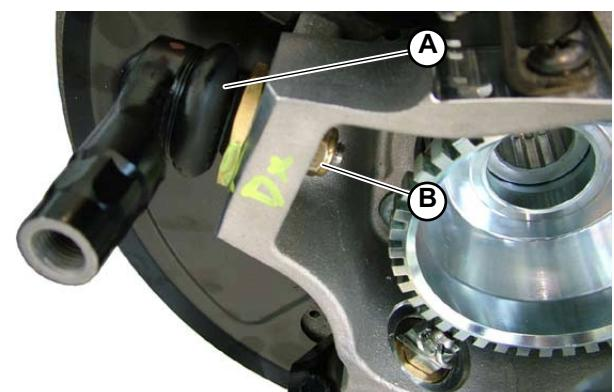

Fig.1
1. Position the steering joint (A-Fig.1) and tighten the nut (B-Fig.1).